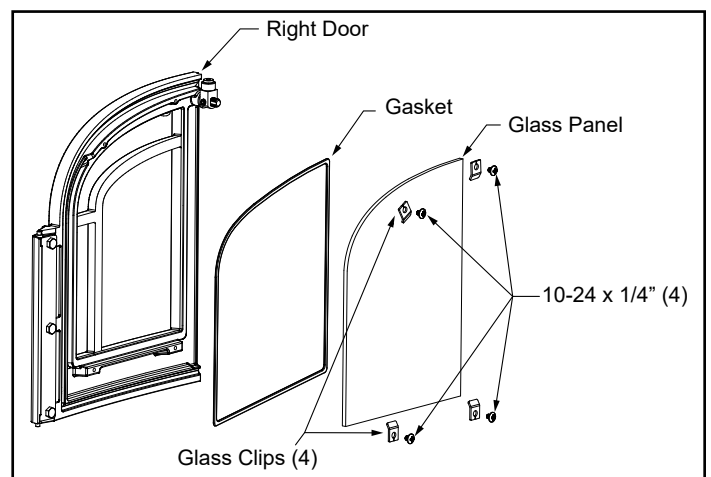

Figure 3.2 - Exploded view of the glass assembly for the right door.
2. Secure the glass on both doors with the retainer clips. Tighten all screws, Figure 3.2.